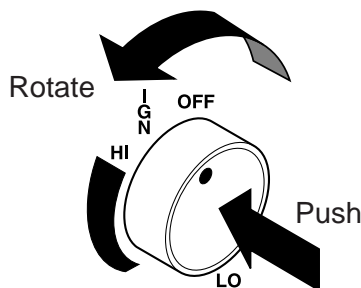

Figure 33 - IGN Position
6. From OFF position, push in gas control knob slightly and turn counterclockwise to the IGN position. See *Figure 33*. Push in and hold control knob for 5 seconds.